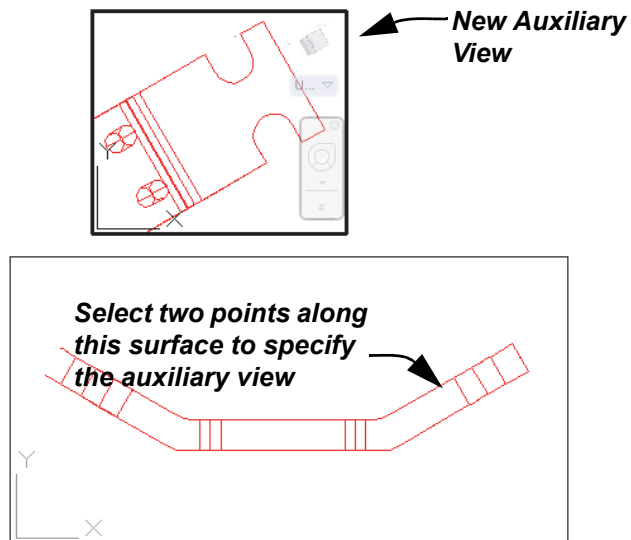

Figure 11–16
- Specify the view center and press <Enter>. Refer back to Figure 11–14 for placement.